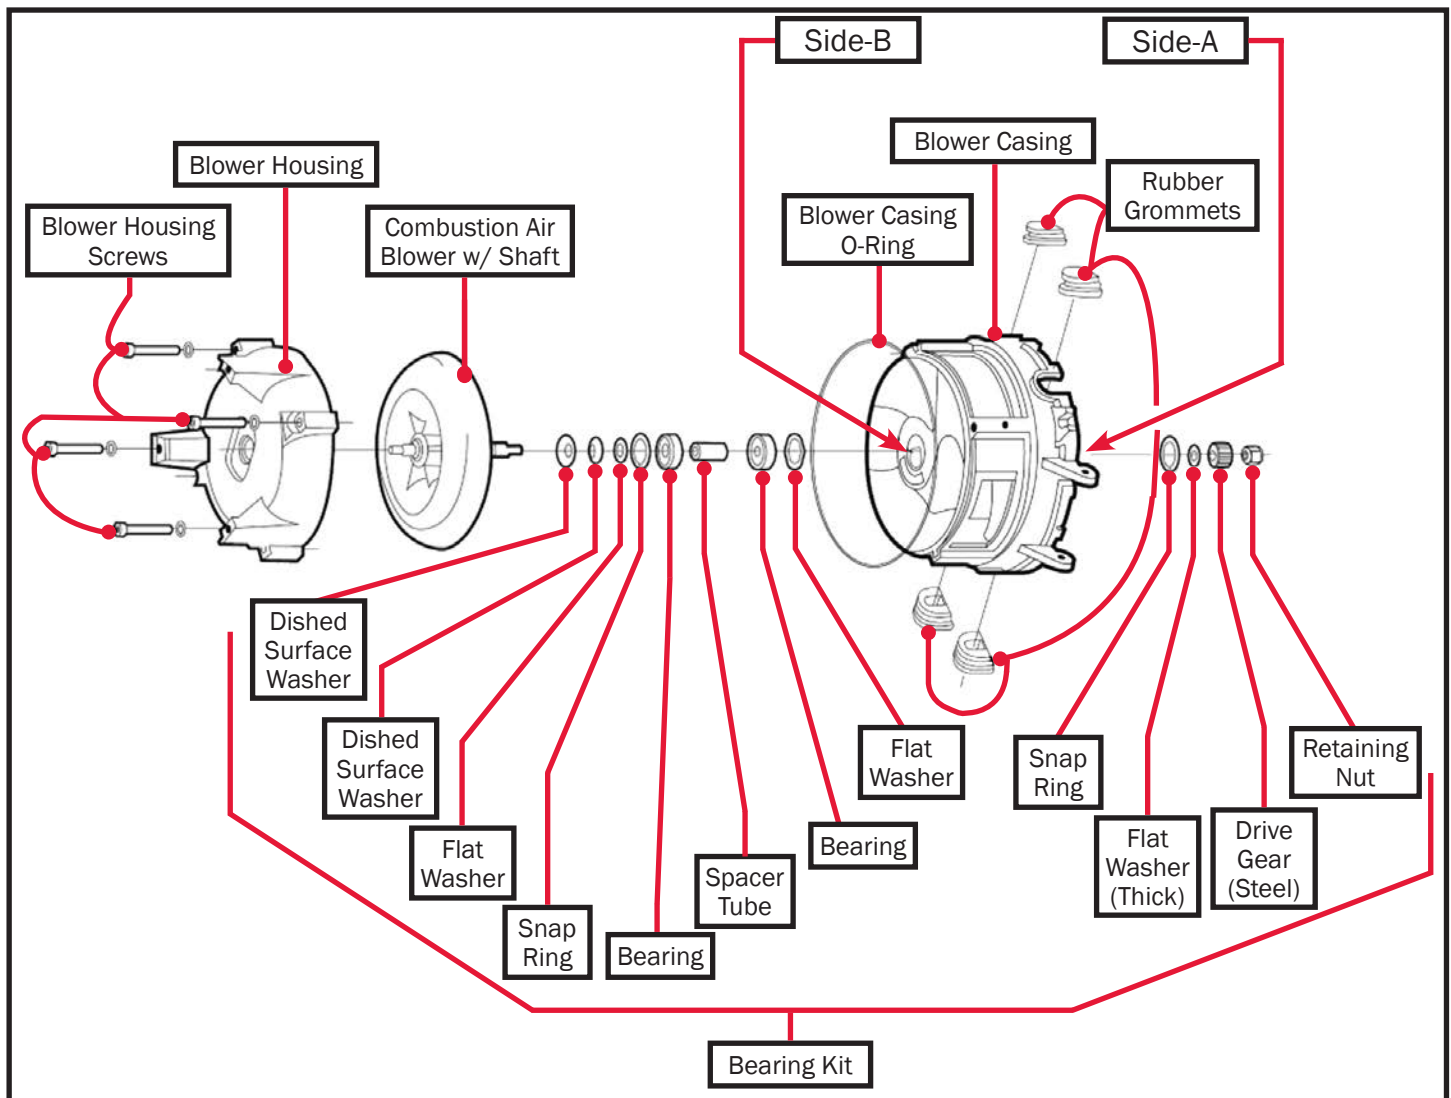

Figure 112b
- Hold side-B (see Figure 112b) of the blower casing and loosen the retaining nut located in side-A of the blower casing. Remove the retaining nut, steel drive gear and thick flat washer from the combustion air blower's shaft. Lightly tap the threaded end of the shaft so that the combustion air blower can be easily removed from the blower casing.